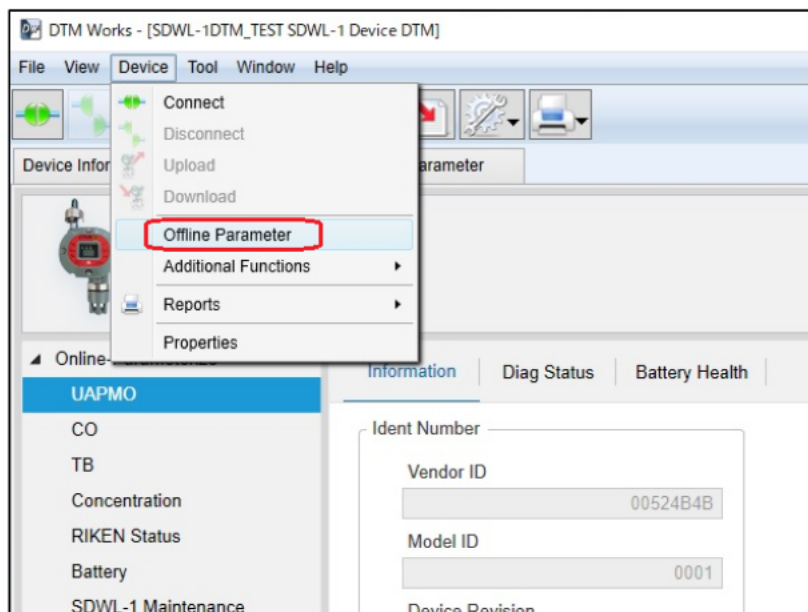

Figure 5-16 Selecting "Offline Parameter"
- ② Select "Offline Parameter" from the Device menu. (Figure 5-16)